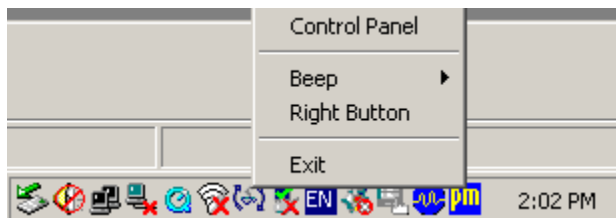

Figure 5-8: PenMount Monitor Popup Menu
- Step 4:** Click the icon. A pop up menu appears. See **Figure 5-8**.
Step 5: Click Control Panel in the pop up menu shown in **Figure 5-8**.